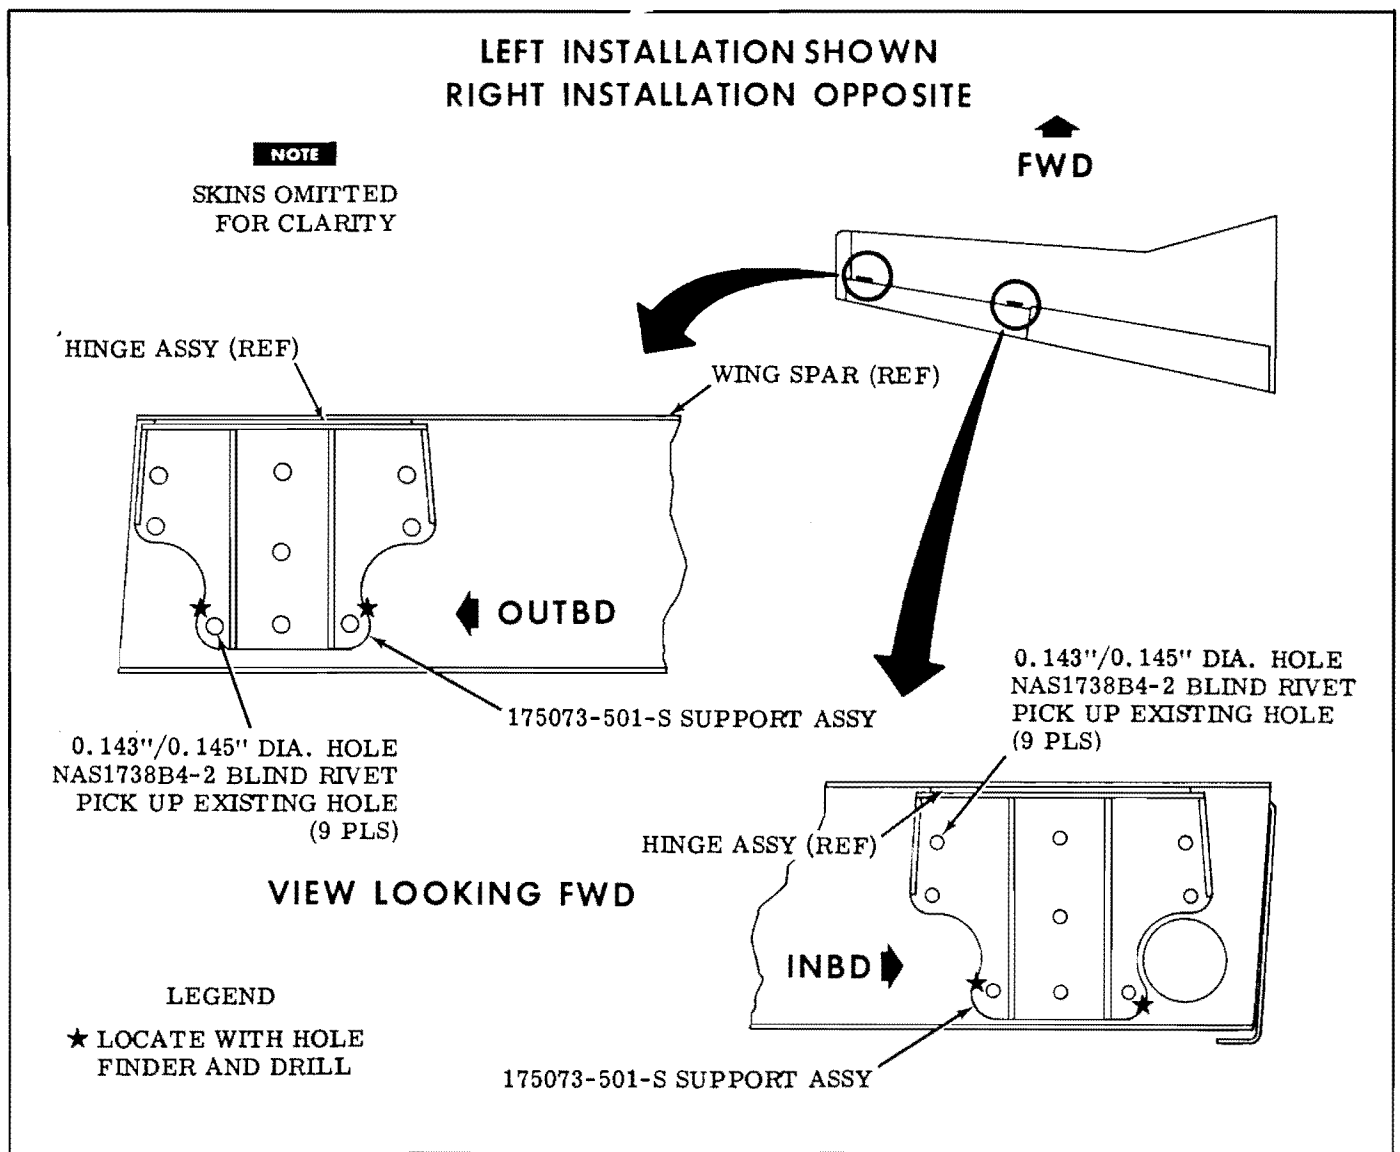

Figure 2.
- a. Position and clamp existing hinge assembly and 175073-501-S support assembly on wing spar and drill upper flange of support assembly picking up existing holes in upper wing skin and spar flange (see Figure 2.).
- b. Using a hole finder, locate the existing lower outboard hole and lower inboard hole in the wing spar and drill through support assembly (see Figure 2.).
- (1) Position existing hinge support on aluminum sheet stock, scribe outline of support on sheet stock and drill 0.144 (\pm 0.001) inch diameter hole (9 places) in sheet stock picking up holes in existing hinge support.
- (2) Cutout template from sheet stock.
- e. Position drill template against aft side of new hinge support assembly and align two (2) lower holes of template with two (2) lower holes, drilled in step 8.b., in new support assembly.
- f. Drill remaining holes (7 places) in new hinge support assembly (see Figure 2.).
- g. Install 175073-501-S support assemblies on left and right wing spars picking up existing holes in spars (see Figure 2.).